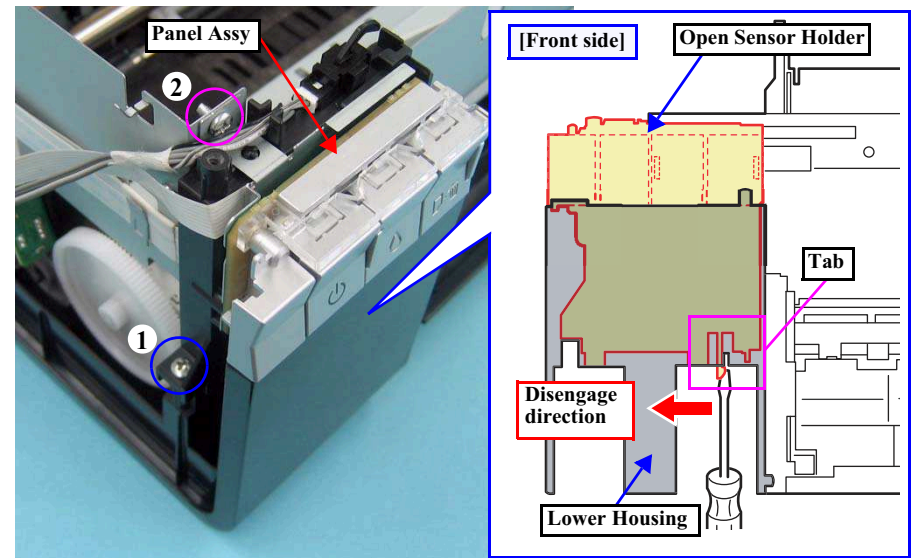
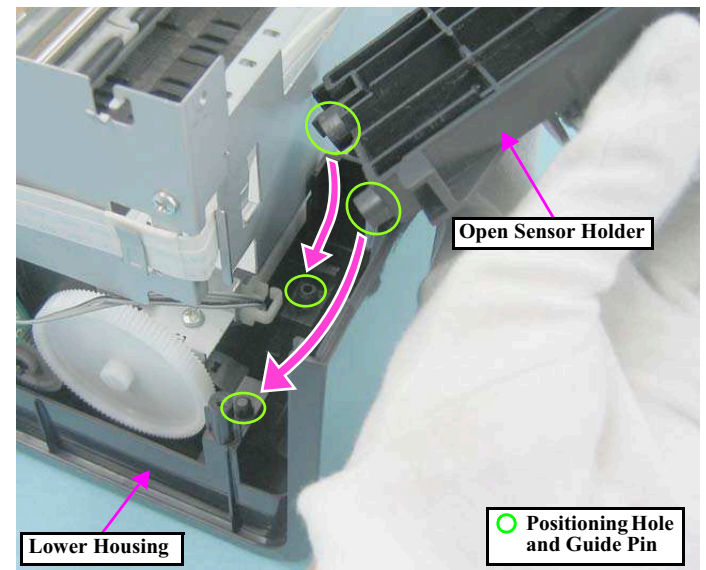

Figure 4-24. Removing the Panel Assy (2)
Figure 4-27. Installing the Panel Assy (2)
When removing the screw (2) shown in Fig.4-24, be careful not to damage the Cover Open Sensor Cable and CDR Sensor Cable.
- Tighten the screws in the order given in Fig.4-24.
- As shown in Fig.4-24 (p.64) and Fig.4-27, match the positioning holes of the Open Sensor Holder with the guide pins of the Lower Housing, and secure the Open Sensor Holder with the tab.